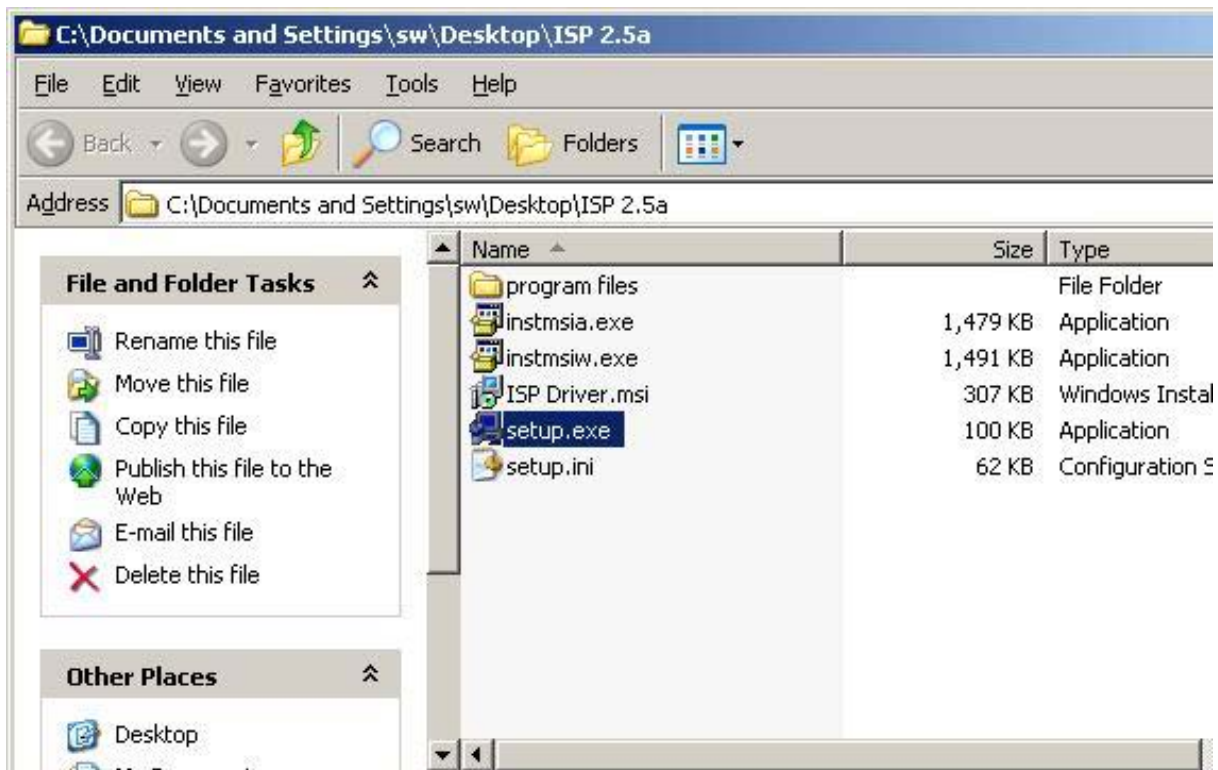

Fig 1.0
2. The files extracted from the ZIP file are listed in Fig 1.0. Double-click setup.exe to install.